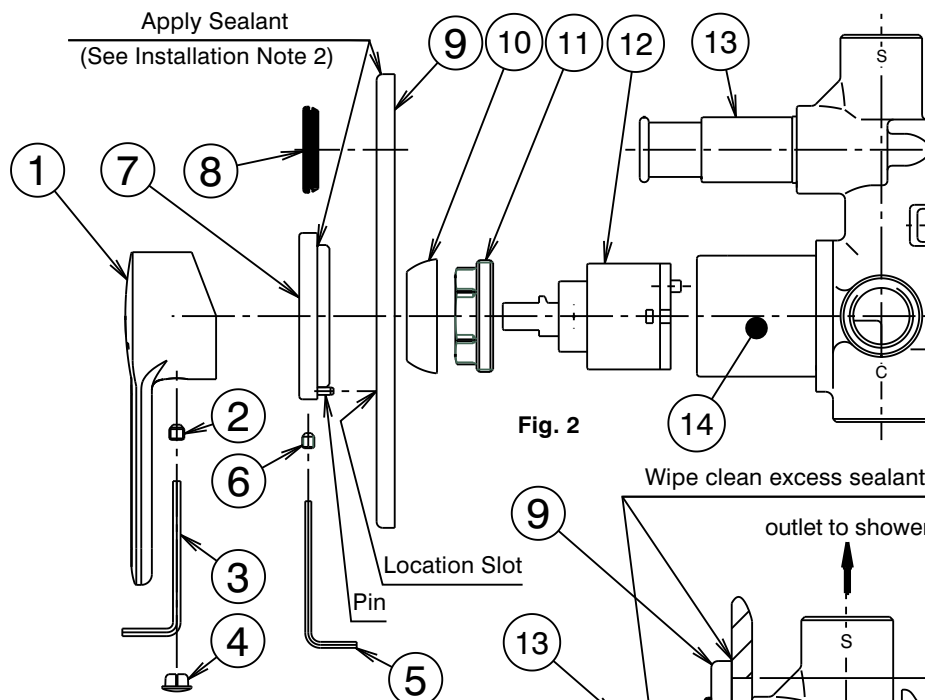
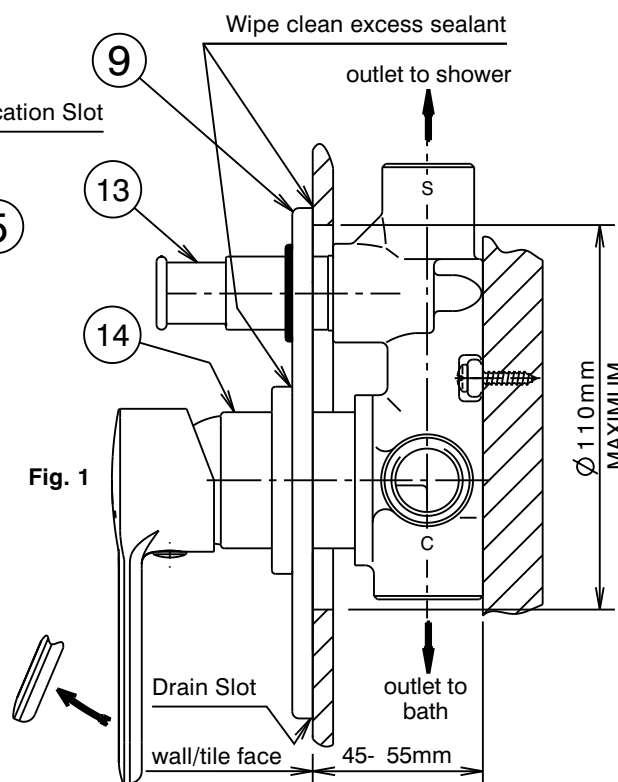

Fig. 2
Fig. 1
Installation (Fig. 1 & 2)
- * Mixer body (14) must be installed square to wall/tile face, to ensure cover plate (9) sits flush.
- 2) Ensure seal (8) is fitted in cover plate (9). Apply a suitable clear sealant to the back edge of the cover plate (9), leaving an unsealed section at the bottom for drainage. Apply a suitable clear sealant in the corner around the location diameter of the retaining ring (7), to prevent water entering the wall cavity (See Fig. 2). Carefully slide the cover plate (9) onto the diverter sleeve (13) and position close to the wall/tile face. Fit retaining ring (7) onto the mixer body (14), and slide towards the cover plate (9) ensuring the pin in the retaining ring (7) is engaged in the location slot in the cover plate (9). Push the retaining ring and cover plate firmly against the wall/tile face and tighten screws (6) using 2mm allen key (5). Wipe clean any excess sealant from the chrome surfaces & the wall/tile face (See Fig. 1).
- 3) Fit handle (1) as shown, taking care that it is pushed fully down, then tighten grub screw (2) using 2.5mm allen key (3). Insert plug (4) taking care not to damage the decorative finish.
Replacing Cartridge (See Fig. 2)